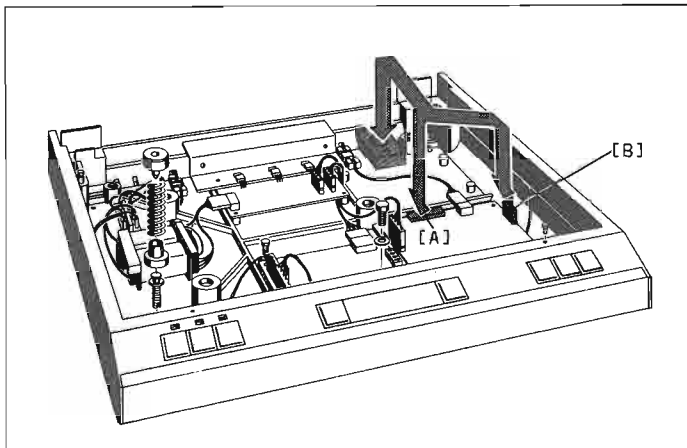

Fig.3.3
- The larger of the two PCBs (1.179.183.12) on the cable harness is plugged into the 20-pin CIS connector of the ARM ELECTRONICS PCB 1.179.190/250 (see Figs. 3.3 and 3.4, item A). The connector that previously occupied this location is plugged into the socket on the PCB 1.179.183.12.